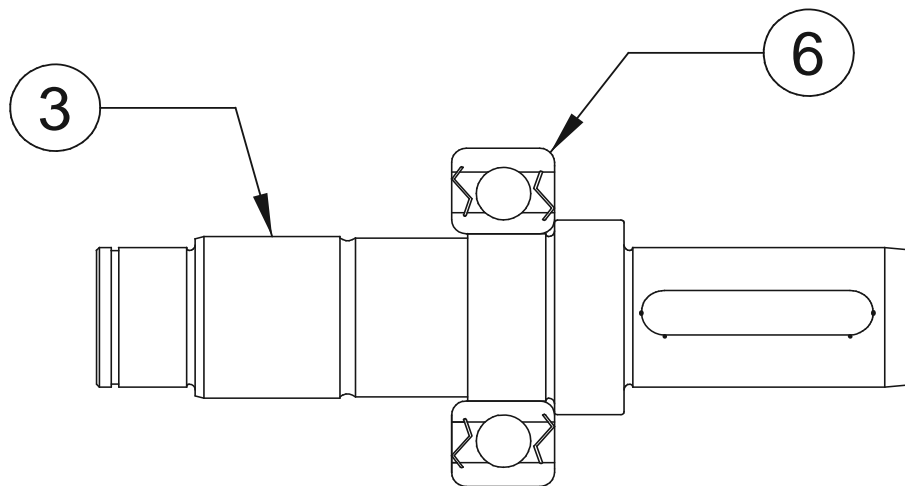

FIGURE 7.2
7.2.2. Position the bearing (6) on the output shaft (3) when ready as shown in Figure 7.2 and leave to cool in position.